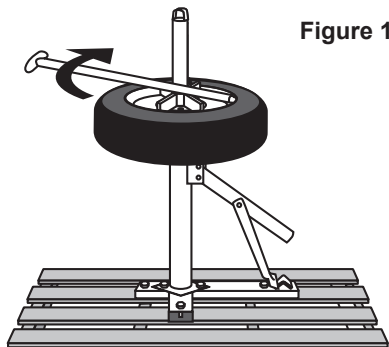

Figure 11
- Slide bar down and, using the Post Cap as leverage, pull the Bar around, continuing to separate the bead from rim. See Figure 11, below.